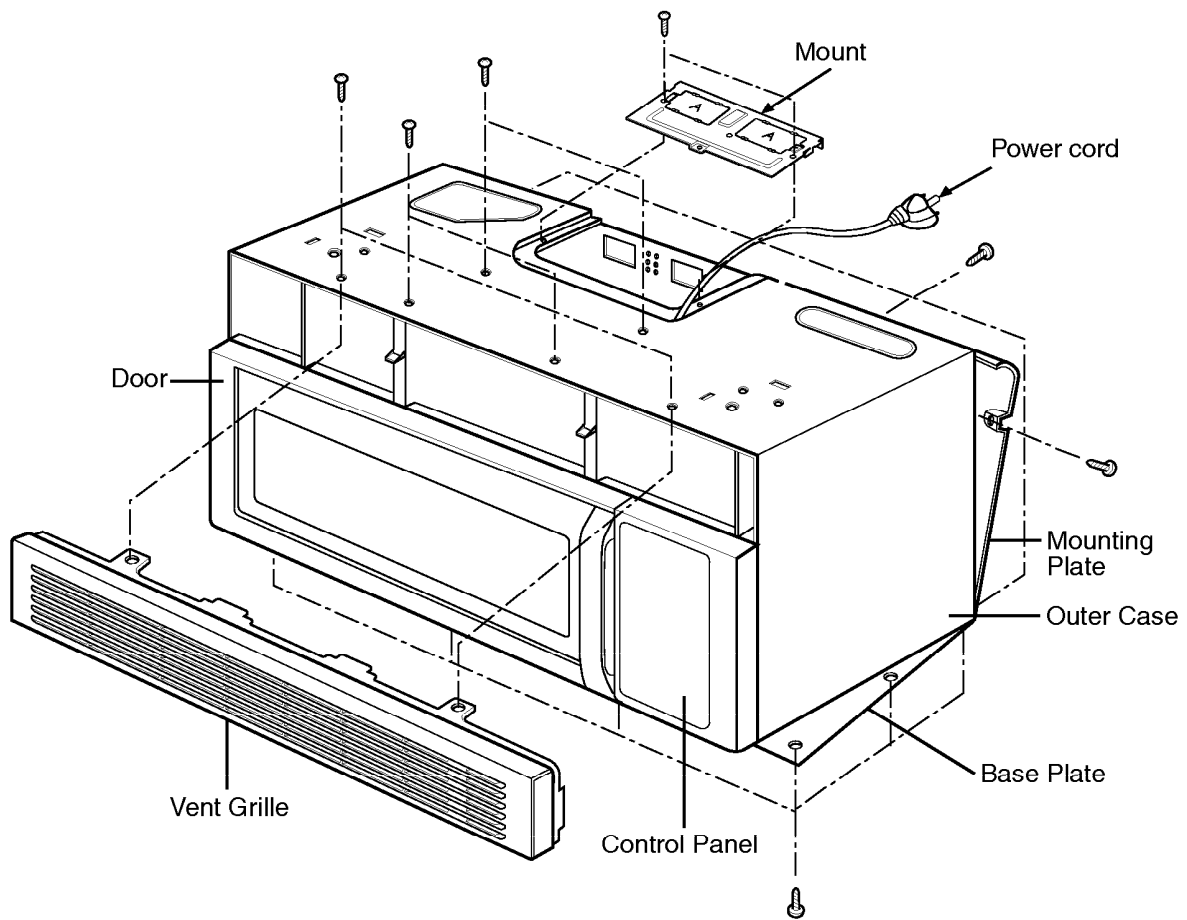

Figure 8
B. REMOVING THE OUTER CASE(Figure 8)
- (1) Remove the vent grille by removing two screws securing it to the out case.
- (2) Remove two screws securing it to the front bracket.
- (3) Remove two screws securing it to the air duct.
- (4) Remove the wall mounting plate by removing the two screws securing it to the outer case.
- (5) Remove the base plate by removing six screws securing it to the outer case. Remove the Mount from the out case by removing two screws securing it to the outer case and one screw securing it to the ventilation motor ASS'Y and cavity.
- (6) Remove the power cord cover from outer case by removing a screw.